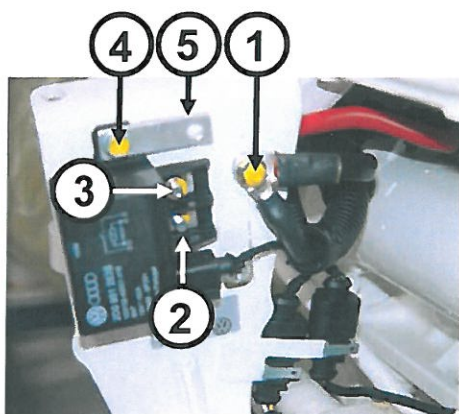
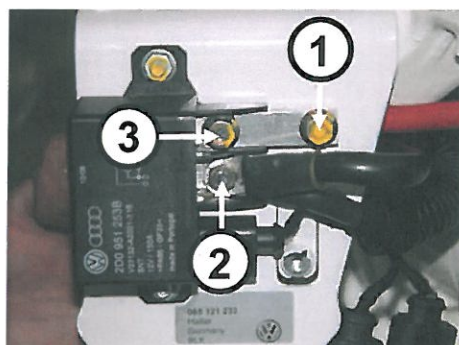

Fig. 2
Fig. 3
3. Fold out the holder of ground relay to the left (see Fig. 2).
#### Operation sequence for activation of ground relay (see Fig. 2 and Fig. 3):